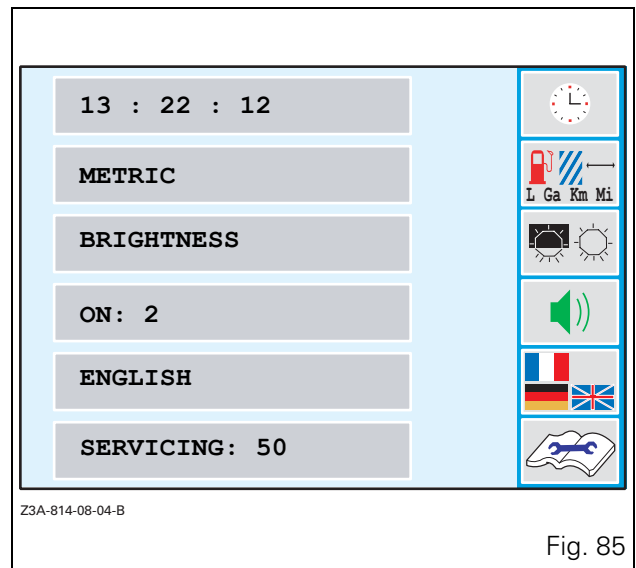
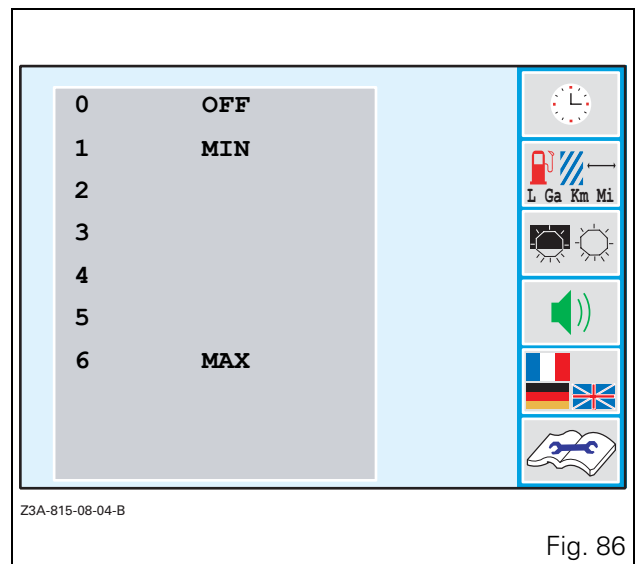
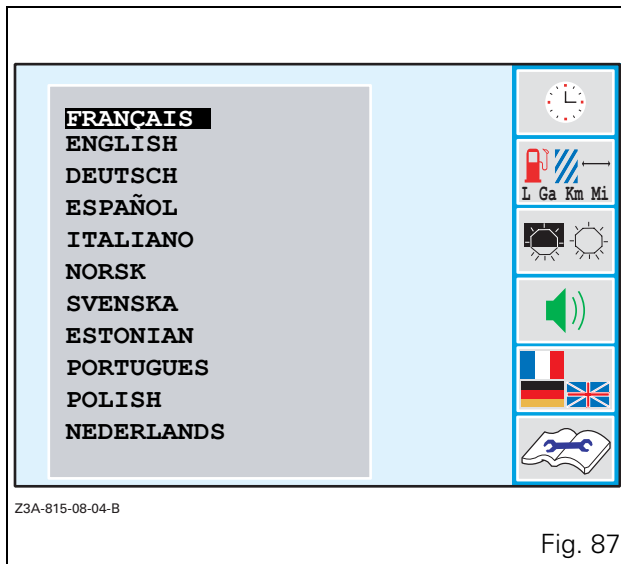
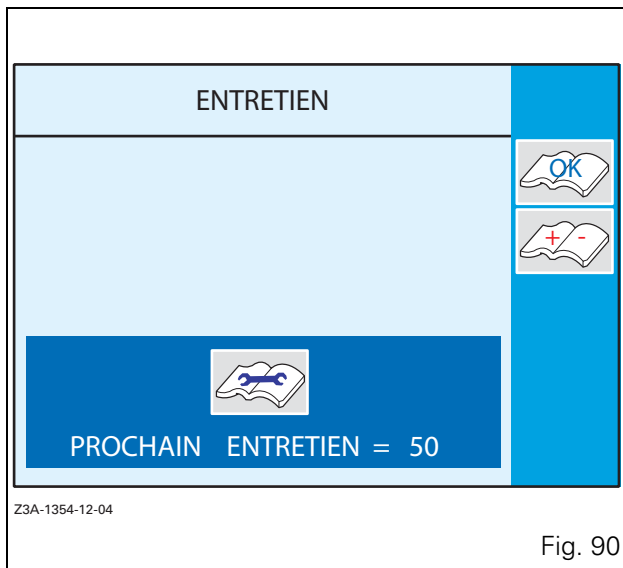

Fig. 85
Fig. 86
Fig. 87
Fig. 90
- Press the key <<4 when the window (Fig. 85) is open. The window (Fig. 86) is displayed.
- Press the key <<5 when the window (Fig. 85) is open. The window (Fig. 87) is displayed.
- Press the key <<6 when the window (Fig. 85) is open. The window (Fig. 90) is displayed.